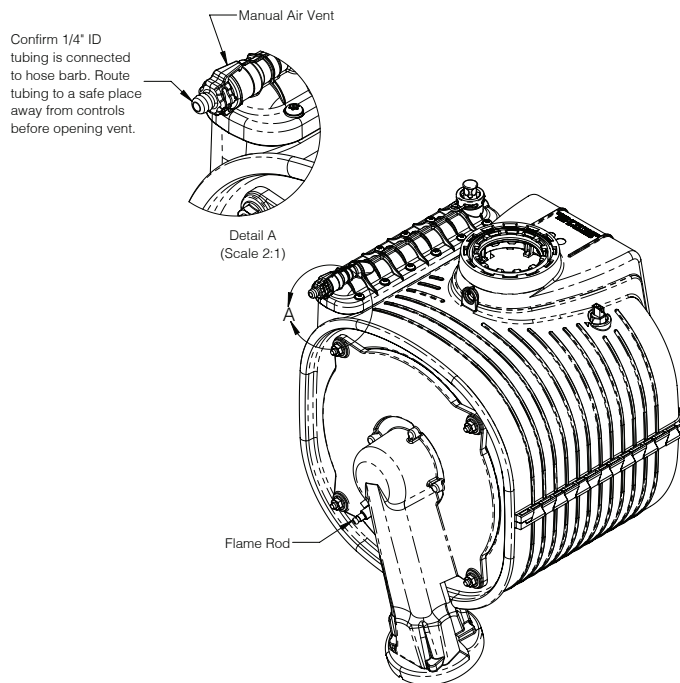

Figure 15-1: Manual Air Vent Location
5. Eliminate air in boiler by bleeding from heat exchanger manual air vent on top left side of heat exchanger (Figure 15-1).
- B. Measure carbon monoxide (CO) level after 5 minutes of operation above 50% firing rate. This can be done by providing DHW demand. Ensure door is sealed before taking combustion readings.
17. Perform a check of ignition safety shut-off device. With burner firing, carefully unplug black ignitor/ flame sensor wire at burner door using a pair of insulated pliers (Figure 15-1). Burner should shut off immediately.